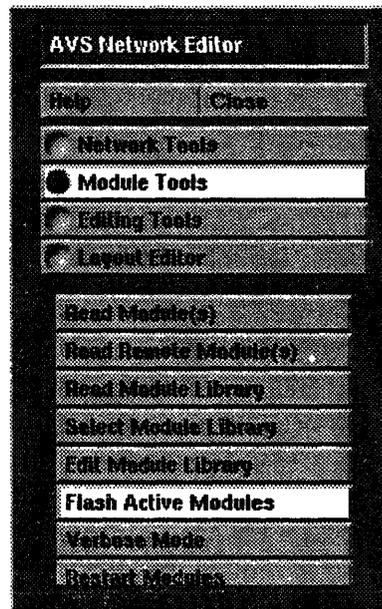

Figure 1. Module Tools menu.
1. Start AVS and bring up the AVS network editor. From the menu in the upper left of the network editor menu, select **Module Tools**, as shown in Figure 1.